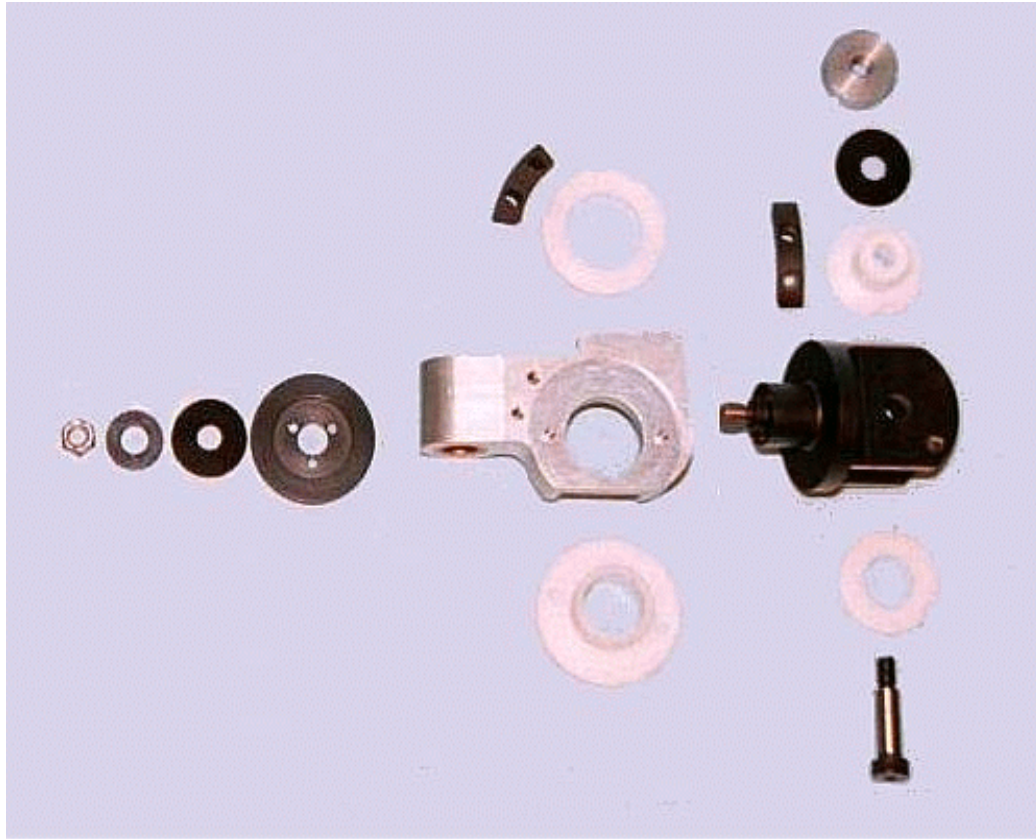

Figure 8.19- Exploded shoulder yoke to yoke mount assembly
17. **Figure 8.19** is an exploded view showing the assembly of the shoulder yoke assembly to the shoulder yoke mount. Position one Shoulder Yoke Pivot Bushing (T1SHM038) into each shoulder yoke mount assembly from the outer side. The two holes in the shoulder yoke pivot bushings should engage the dowel pins in the yoke mount assemblies.